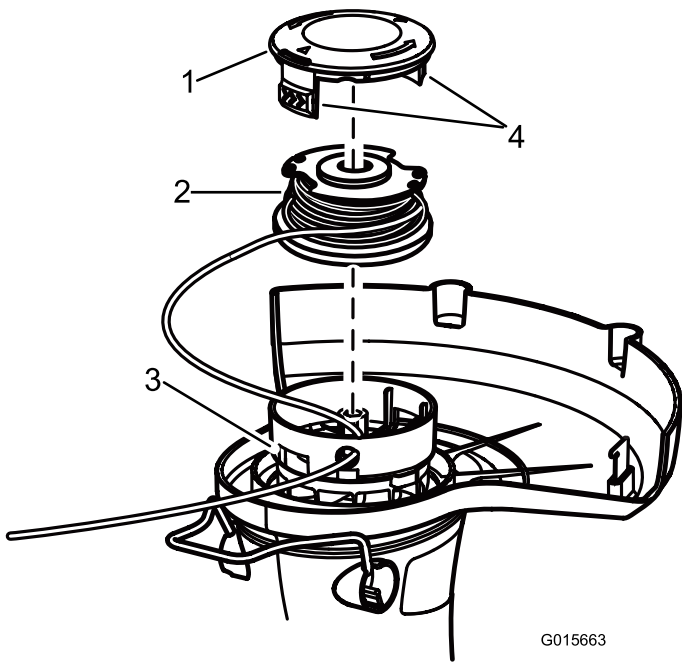

Figure 14
2. Push in the tabs on the side of the spool retainer (Figure 14).
2. Remove the spool. See Replacing the Spool (Figure 14).